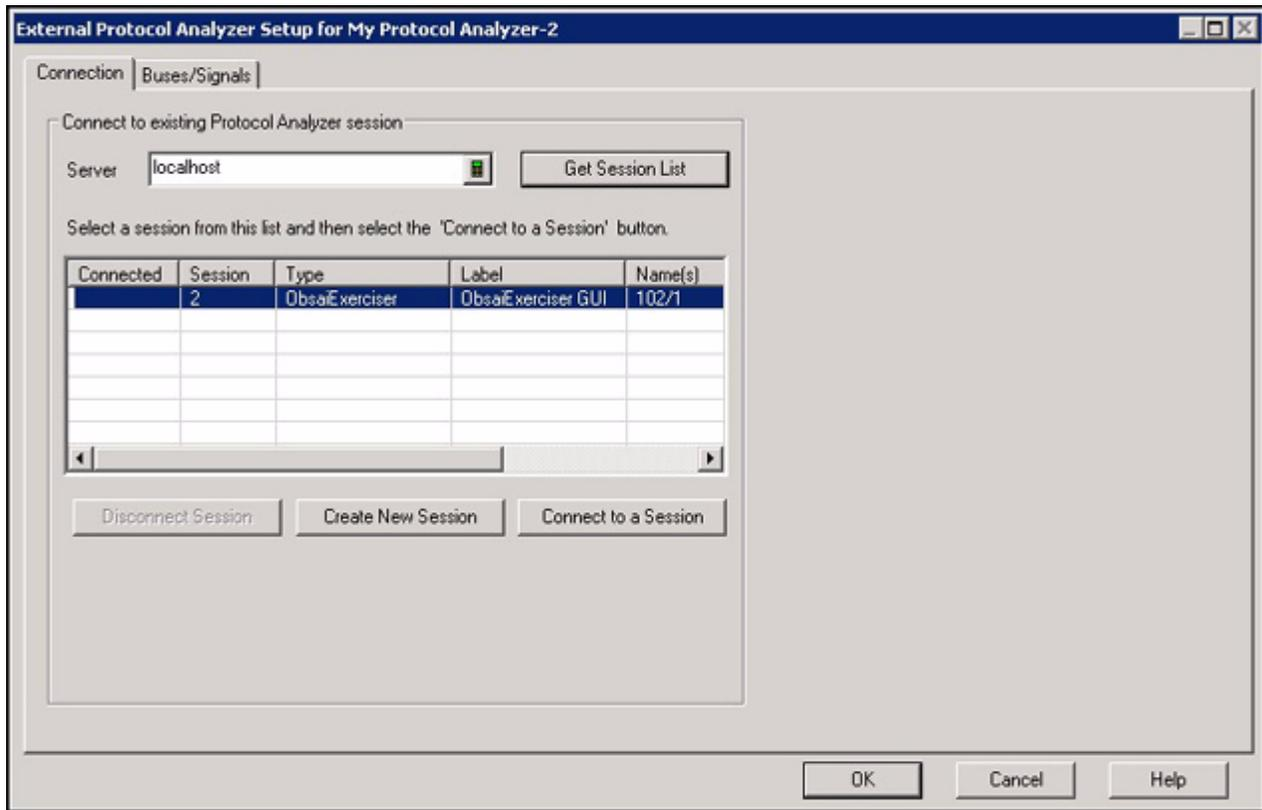

Figure 41 Connection screen
- 6 Select a module from the list of modules attached from the **Connection** screen as shown in the Figure 41.